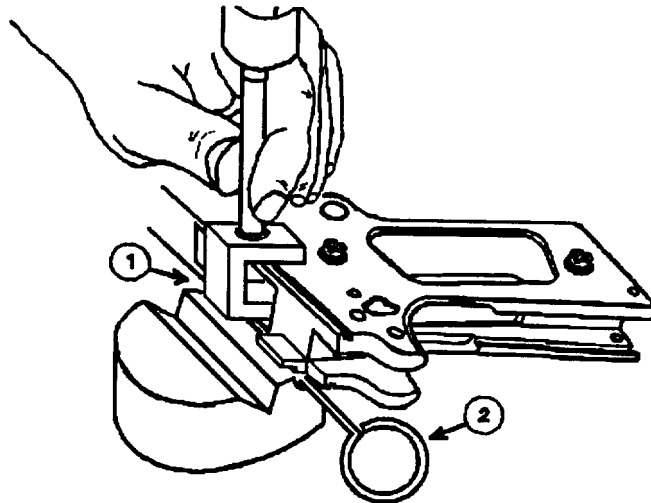

Figure 6-34. Staking The Plunger Tube
(2) Use a 4 oz hammer, the Plunger Tube Staking Tool (1), Figure 6-34, and the Insert Tool (2) for staking (*flaring*) the underside of the plunger tube.
(3) Reassemble the receiver assembly by following the procedures outlined in para 6-6 of this Manual.
(4) Reassemble slide assembly to receiver assembly by following the procedures outlined in para 3-3 of this Manual or in TM 00526A-10/1, Operator's Manual.
(5) Once the pistol is completely reassembled, perform the safety checks outlined in para 6-18 of this Manual.